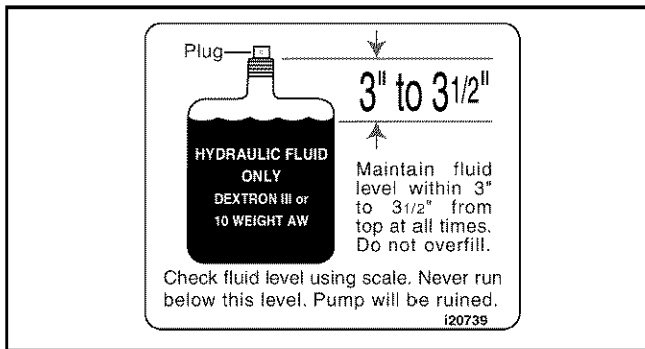

Figure 5
- Fill the reservoir tank to the within 3" to 3 1/2" from the top of fill tube with Dexron III automatic transmission fluid or 10W AW hydraulic fluid. See Figure 5.